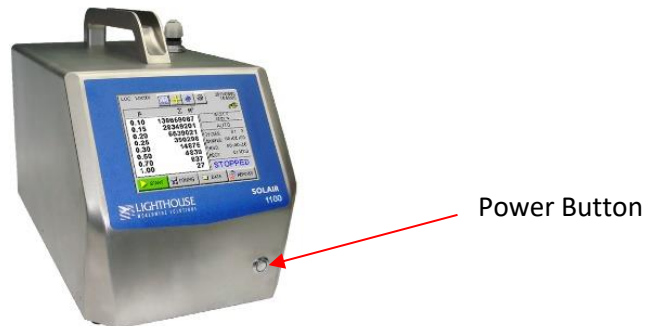

Figure 6-1 SOLAIR 1100LD Power Button
6. Press the front panel power button (figure 6-1) to power on the instrument.